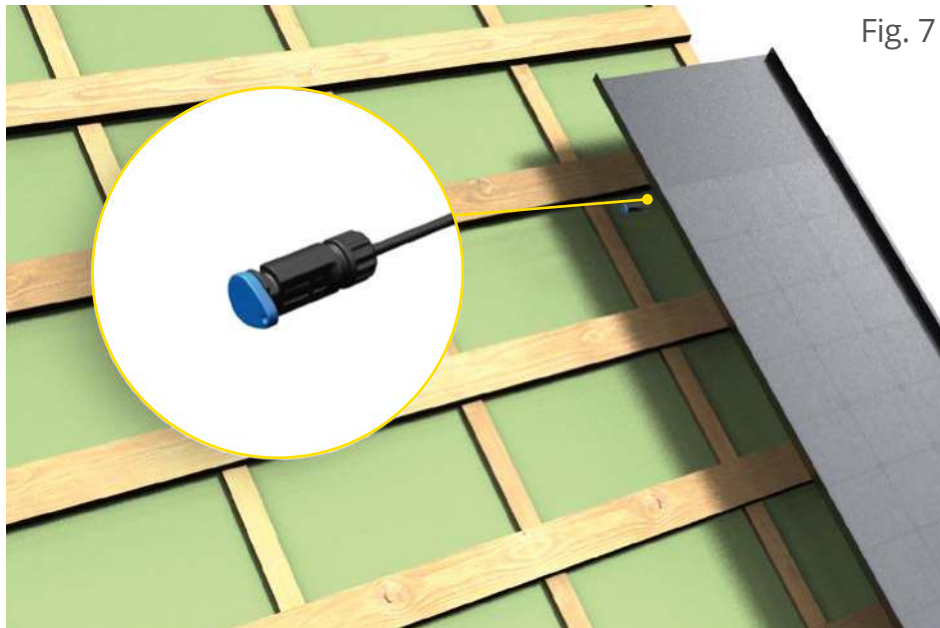

Fig. 7
**3.5 The cable dust caps**, which provide protection from moisture and the outside environment, **must be removed immediately prior to making the click connection between the MC4 connectors** (Fig. 7).